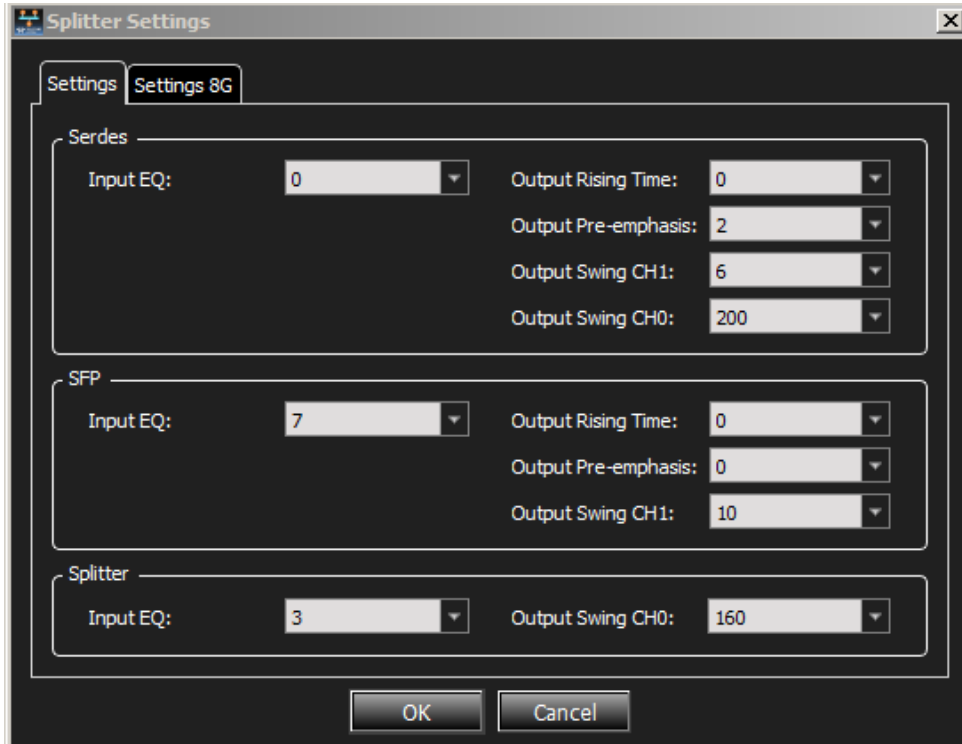
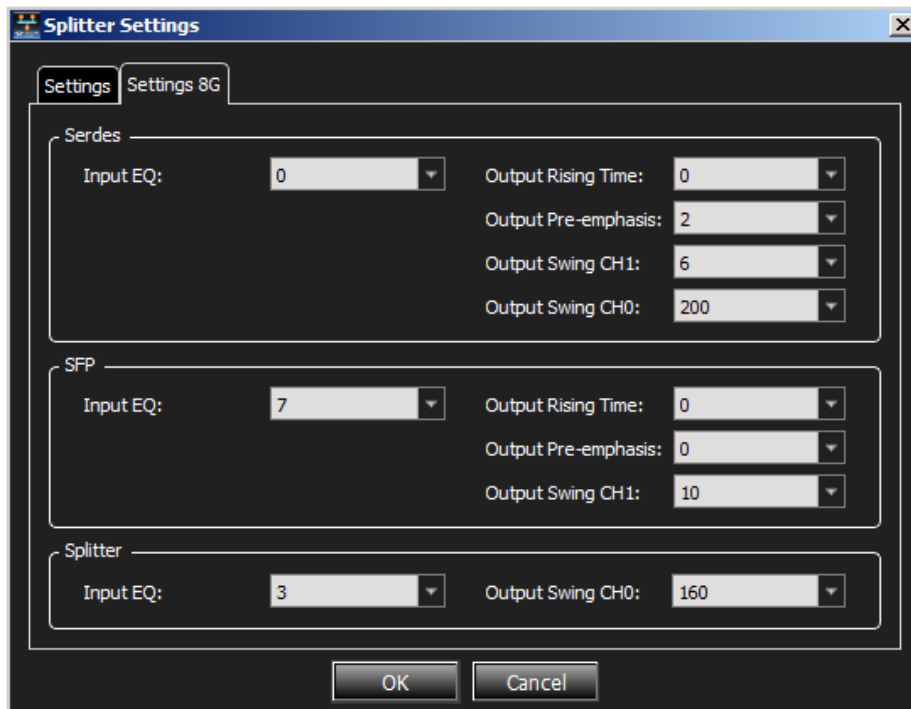

Figure 4.29: Splitter Settings Window for FC Device
Figure 4.30: Splitter Settings window for FC Device – 8G Tab
- Splitter: Selecting **Splitter** displays the Splitter Settings window. (See Figure 4.29.) Enter the desired values for each of the parameters. Select the 8G tab (see Figure 4.30) and enter the desired values for each of the parameters.